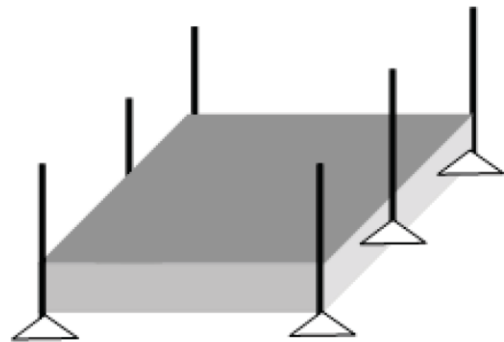

Figure 8.2. Thermobreak Sheet placed between pedestals.
3. Lower the insulation sheets so that the slits fit on the pedestals (Figure 8.2).